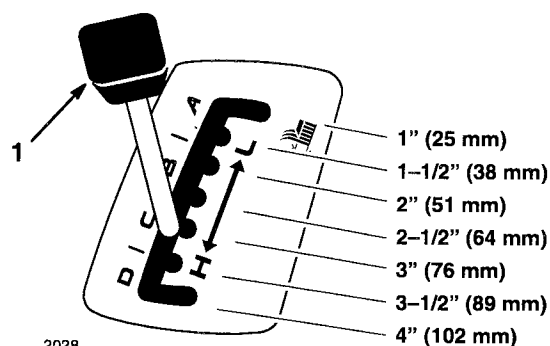

Figure 6
2. Pull on the height-of-cut lever (deck lift) and move it to the desired position (Fig. 6).